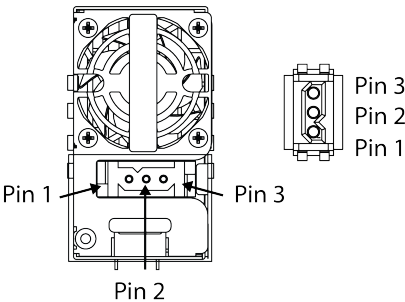

Figure 32: Connecting the DC Power Cord
3. Position the DC power cable connector so that the wide, flat side is closest to the fan, as shown in Figure 32. The DC power cable connector can only connect to the power supply one way.